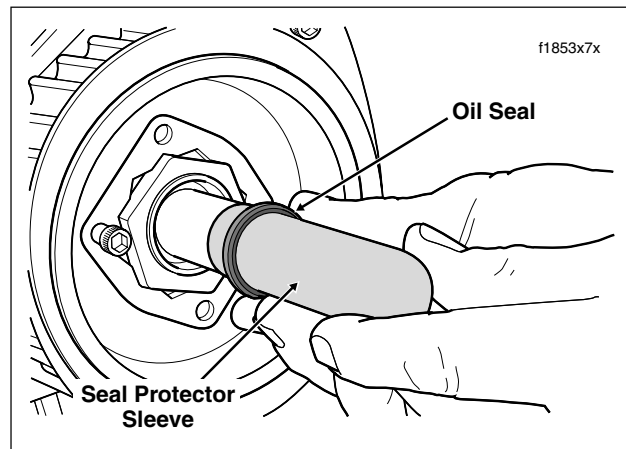

Figure 7-39. Slide Protector Sleeve/Oil Seal on Mainshaft
- Squarely seat the oil seal on the seal protector sleeve with the garter spring facing the transmission case. See Figure 7-39.